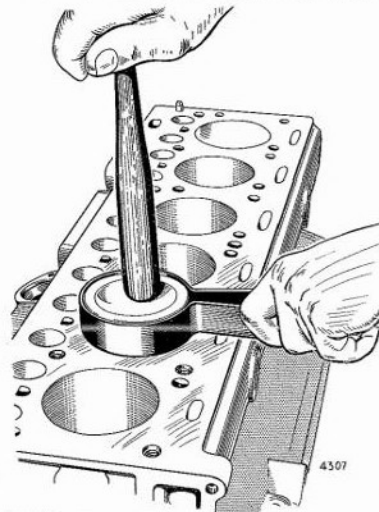

Fig. B.110. Fitting the piston and connecting rod assembly, using the Churchill Tool R.G.203 to compress the piston rings
2. To facilitate the fitting of the piston and connecting rod assemblies it is recommended that the Churchill Ring Compressor R.G.203 be used, (see Fig. B.110) this